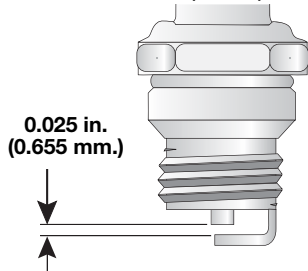

Fig. 34
4. Replace cracked, fouled or dirty spark plug. Set the air gap at 0.025 in. (0.655 mm.) using a feeler gauge (Fig. 34).